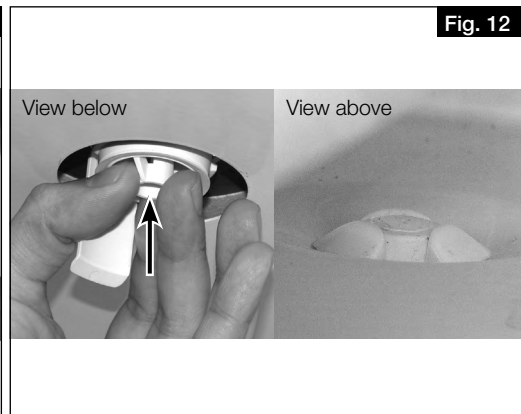

Fig. 12
2. Plug the mounting part in the condensate outlet from below, until the claw fasteners snap to the sheet edge of the base plate (Fig. 12).